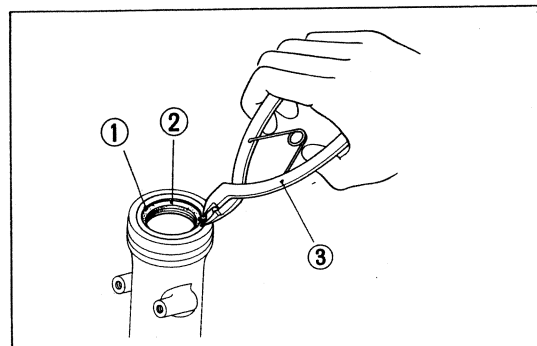

Fig. 40 ① Snap ring ② Oil seal ③ Snap ring plier
- 6) Remove the dust seal. Remove the snap ring by using plier. (Fig. 40)